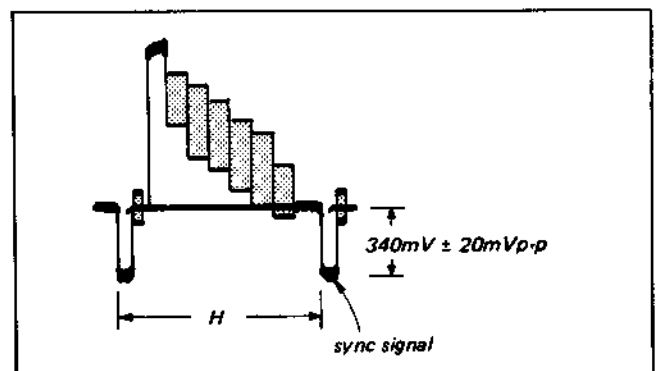

Fig. 4-14.
- (3) Adjust RV8 for the sync signal level of  $340 \text{ mV} \pm 20 \text{ mVp-p}$ . (see. Fig. 4-14).